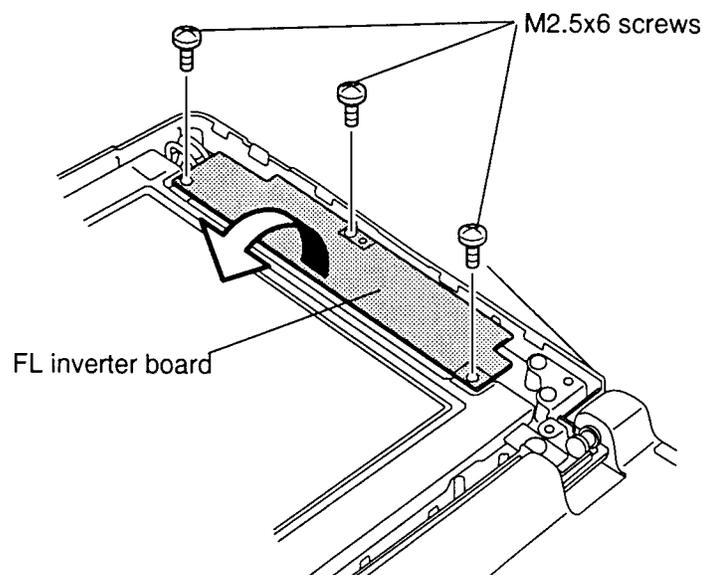

Figure 4-28 Removing the FL inverter board
To remove the T2400CS's FL inverter board, follow the steps below and refer to figures 4-28 and 4-29.
3. Remove the three M2.5x6 screws from the FL inverter board (figure 4-28).
To install the T2400CS's FL inverter board, follow the steps below and refer to figures 4-28 and 4-29.
3. Replace the **FL inverter board** and secure it with the **three M2.5x6 screws** (figure 4-28).